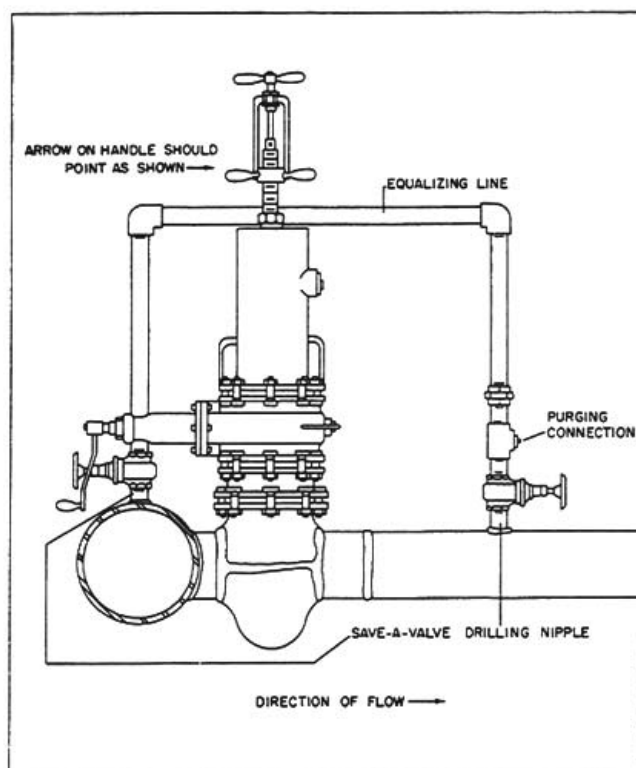

FIGURE 51
6. If using a solid rubber stopper or deferred completion stopper, install a Save-A-Valve Drilling Nipple on the pipe line which is the source of pressure. Install a Save-A-Valve Drilling Nipple on the new lateral line and connect the two nipples together to form an equalizing line. **Figure 51.**